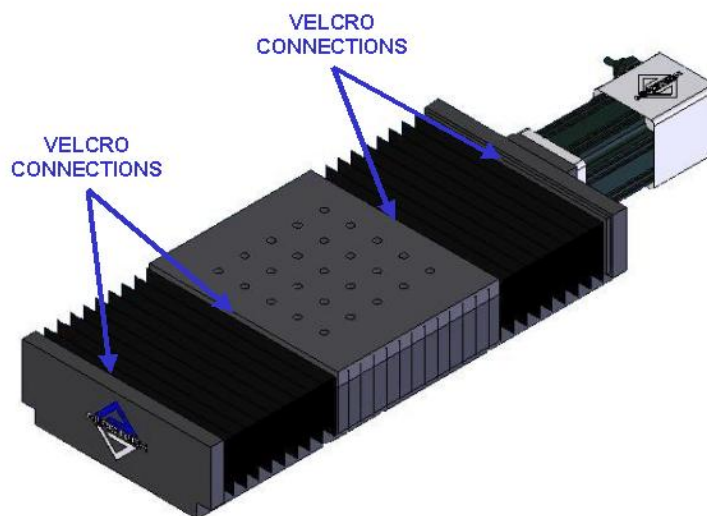

Figure 4-2: Bellows Removal Procedure
- b. Bellows Configuration: Velcro is used to connect the bellows to the stage carriage and endplates (Figure 4-2). To gain access to the inner section of the stage, disconnect the Velcro at these points and compress the bellows to one side.